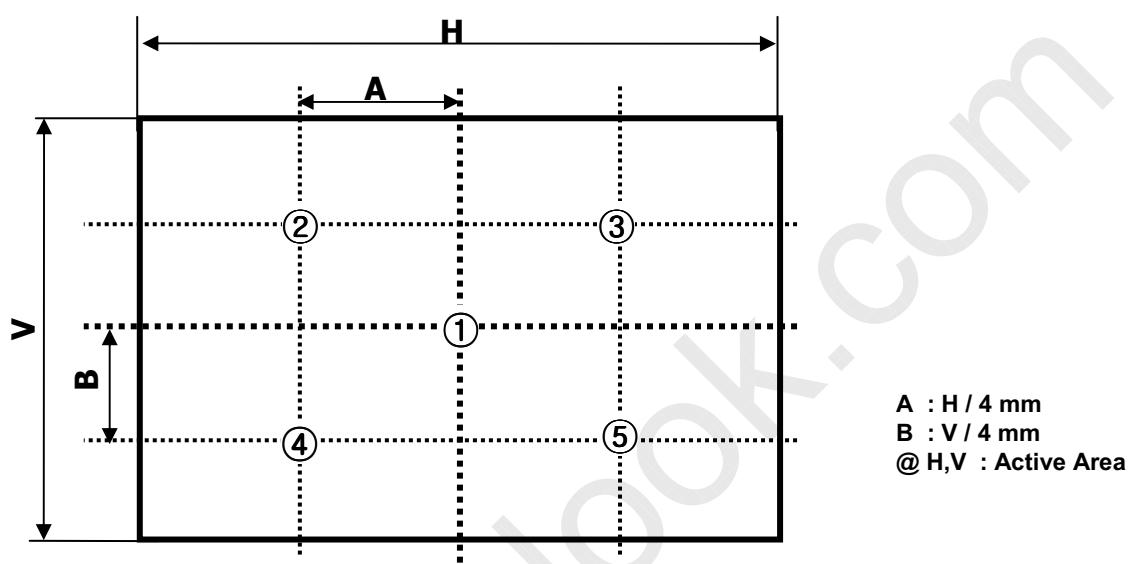

FIG. 2 5 Points for Luminance Measure
2. Surface luminance are determined after the unit has been 'ON' and 1 Hour after lighting the backlight in a dark environment at  $25 \pm 2^\circ\text{C}$ . Surface luminance is the luminance value at center 1-point across the LCD surface 50cm from the surface with all pixels displaying white. For more information see the FIG. 2.
Where  $L_{on1}$  to  $L_{on5}$  are the luminance with all pixels displaying white at 5 locations . For more information, see the FIG. 2.